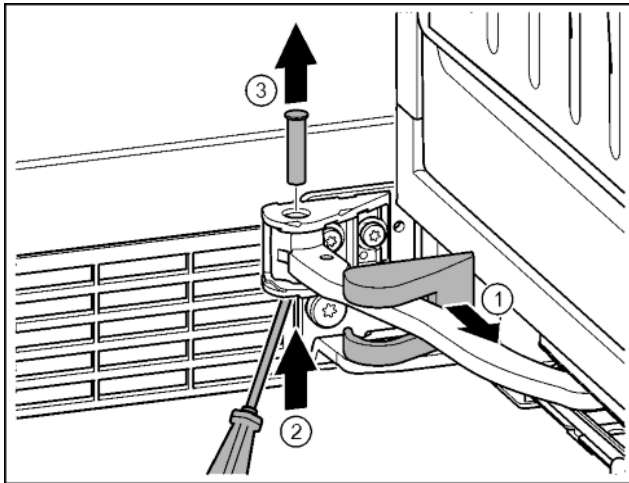

Fig. 17
- ▶ Remove the mounting block cover and push it along the hinge. Fig. 17 (1)
- ▶ Lift bolt with finger or screwdriver from below. Fig. 17 (2)
- ▶ Insert the screwdriver under the bolt head and remove. Fig. 17 (3)